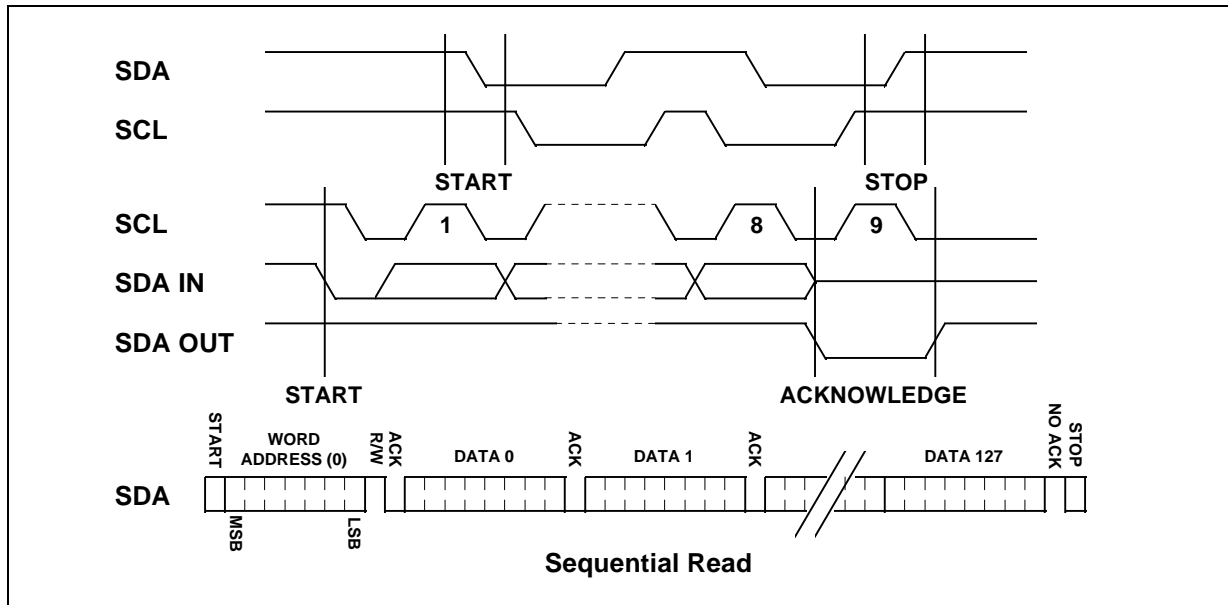

Figure 7.4 EEPROM Timing Diagram
Refer to Figure 7.4, a sequential read is initiated by the W9968CF with a start condition followed by a 7-bit data word address (always 0) and a high read bit. The E²PROM will respond with an acknowledge and then serially output 8 data bits. After the W9968CF receives an 8-bit data word, it responds with an acknowledge. As long as the E²PROM receives an acknowledge, it will continue to increment the data word address and serially clock out sequential data words. The sequential read operation is terminated when the memory address limit (TL) is reached and the W9968CF does not respond with an acknowledge but does generate a following stop condition.